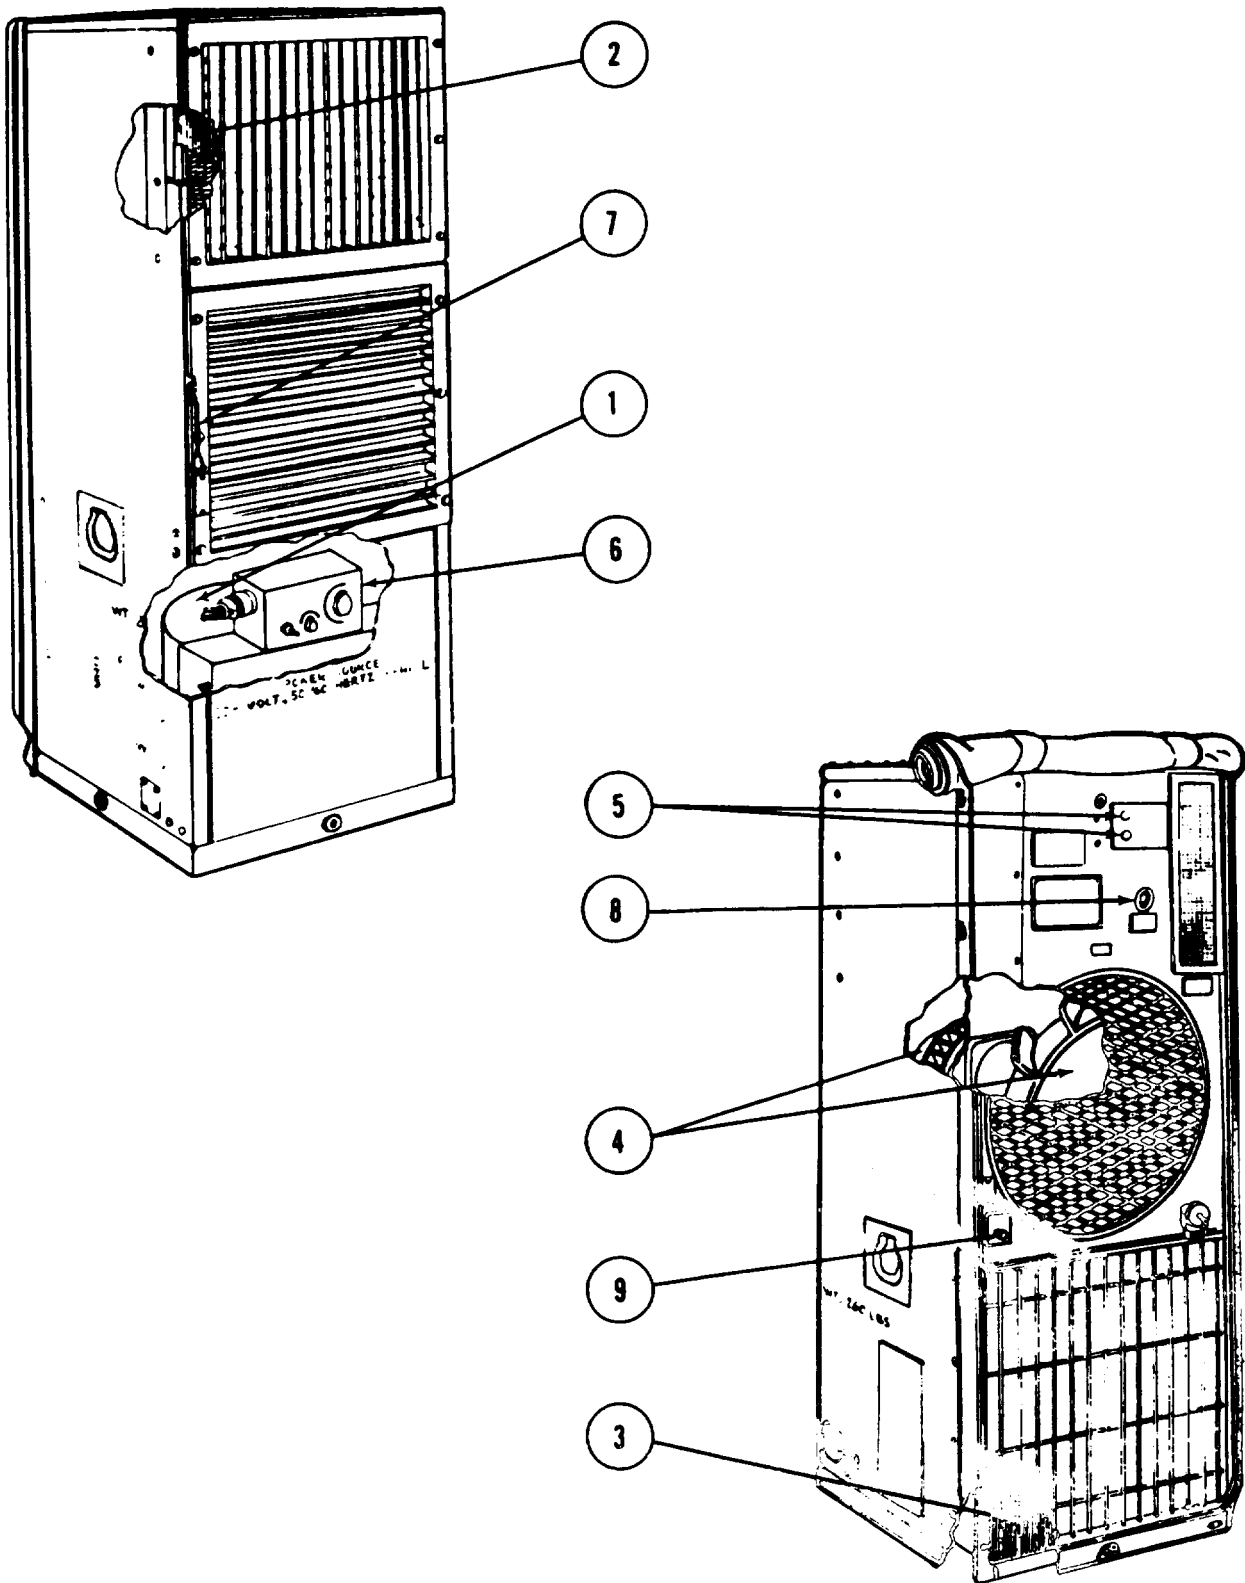

Figure 1-2. Location of Major Components
**1.5. Location and Description of Major Components (see figure 1-2)**
*Compressor (1).* It consists of a reciprocating compressor driven by an electric motor, hermetically sealed into a steel container with a lifetime charge of oil. A crankcase heater surrounds the lower part of the container. The heater is thermostatically controlled to prevent migration of liquid refrigerant into the crankcase where it would become mixed with the oil.
*Evaporator Coil (2).* Is made up of interconnected parallel copper tubes retained in a series of multiple, closely spaced aluminum fins. Each end of the coil is enclosed and supported by a steel plate, which provides the means for mounting the coil in the air conditioner. and for supporting the mist eliminator.
*Condenser Coil (3).* Similar in construction to the freed, multiple-tube evaporator coil.
*Evaporator Condenser Fans (4).* The evaporator fan impeller is centrifugal, and the condenser fan impeller is of the axial type.
*Pressure Cutout Switches (5).* They are both manually reset limit switches, and are connected through capillary tubes to the discharge and suction lines of the refrigeration system. If refrigerant pressure falls below the minimum set for the low-pressure cutout switch, or the pressure exceeds the maximum set for the high-pressure switch. the electrical connection through the compressor relay is opened to stop the compressor.
*Control Panel (6).* Contains the following electrical controls; fan speed switch, thermostat and mode selector switch.
*Fresh Air Damper Control (7).* Is a bead chain that connects to a spring loaded door that controls fresh air intake, Lift chain and pull to close fresh air door.
*Sight-glass Liquid Indicator (8).* The condition of liquid refrigerant flowing through the system can be observed through this window when the compressor is operating in the cooling mode. A small data plate below the sight-glass displays three colors for comparison with that of the refrigerant; green, chartreuse and yellow. Green indicates that the refrigerant contains no moisture. Chartreuse and yellow indicate the presence of moisture, and the need to replace the filter-drier and refrigerant. A milky or bubbly appearance of the refrigerant indicates that the system contains insufficient refrigerant, and that more must be added.